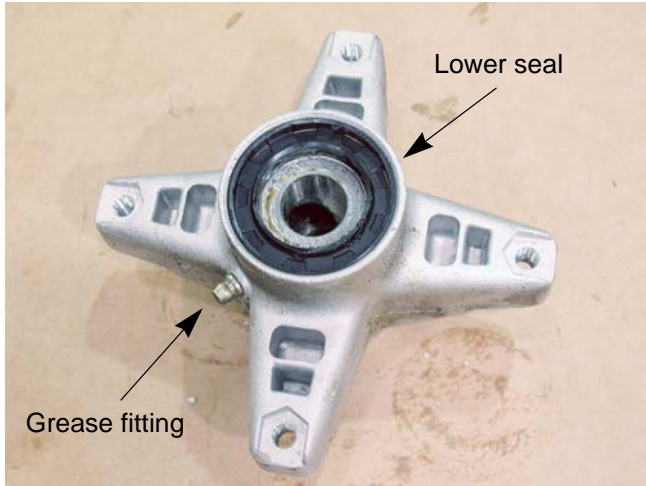

Figure 8.20
7. Remove the lower bearing seal. See Figure 8.20.